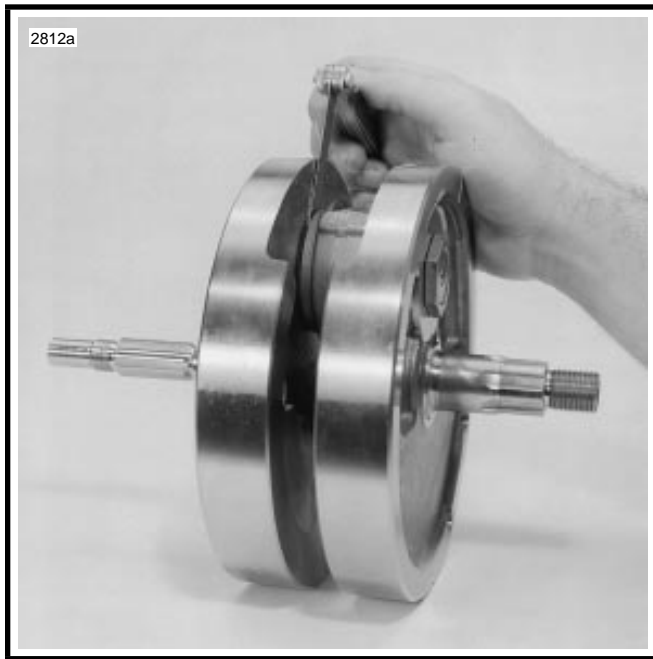

Figure 3-86. Checking Connecting Rod Sideplay
18. See Figure 3-86. When wheels are true, check connecting rod side play with thickness gauge as shown. If it is greater than tolerance shown in SPECIFICATIONS, CONNECTING ROD draw up crank pin nuts until within tolerance. Insufficient play between rods and flywheel face is caused by one of the following conditions: